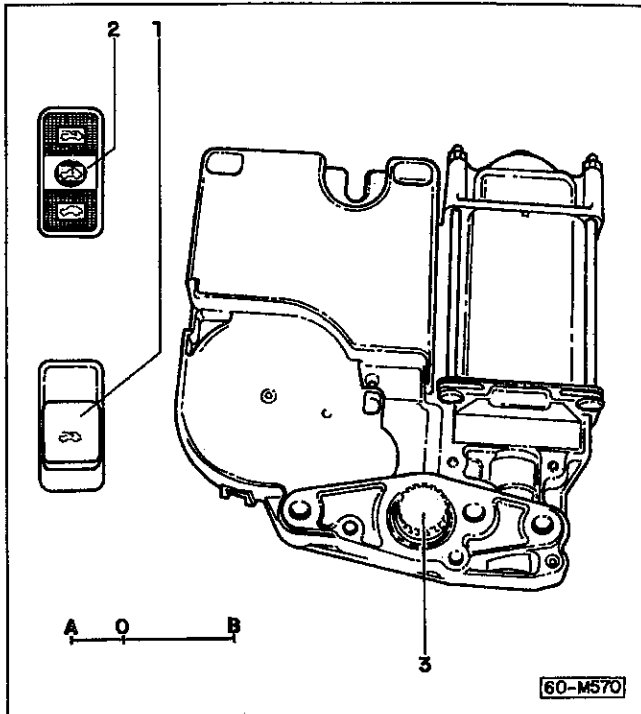

Fig. 8. Drive pinion shown at 3. Sunroof motor switch-off positions represented at A (tilt) and B (full-open). Closed position represented at O.
2. Operate sunroof switch, and count cable drive pinion rotations until end-switch-off position is reached. See Fig. 8.
- The closed position is 2 full turns from the tilting switch-off position (A in shown Fig. 8) and 8.25 turns from the open end-switch-off position (B shown in Fig. 8).